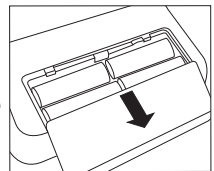

Fig.1
- Open the battery cover on the bottom of the monitor (see Fig. 1). Insert the batteries (see Chapter 13 Technical data). Ensure correct polarity ('+' and '-') when inserting batteries. Close the battery lid. \square \square or \square \square flashes on the display. Set date and time as described below.